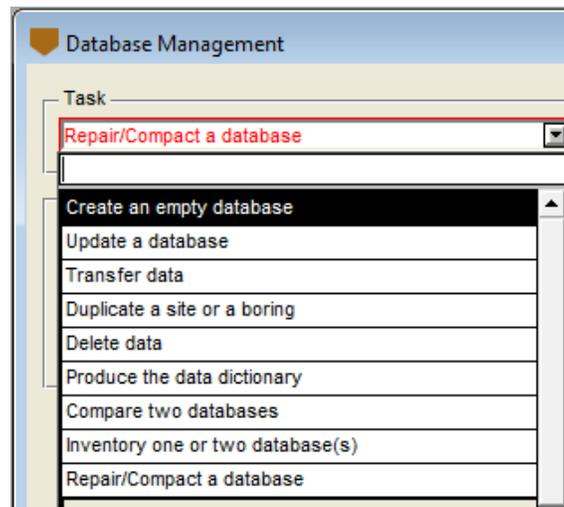

Figure 6 – List of tasks
1. Select **Create an empty database** in the scrolling list of tasks (Figure 6).
1. Select **Update a database** in the scrolling list of tasks (Figure 6).
1. Select **Transfer data** in the scrolling list of tasks (Figure 6).
1. Select **Duplicate a site or a boring** in the scrolling list of tasks (Figure 6).